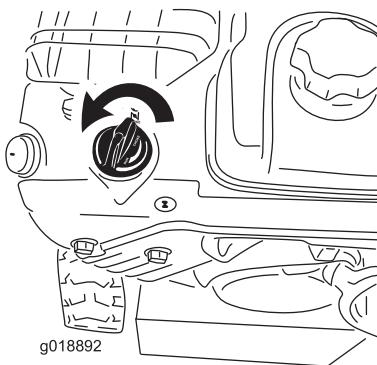

Figure 25
5. Rotate the choke to the Choke position (Figure 25).